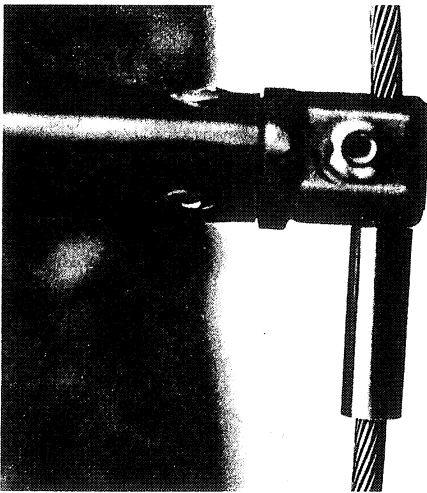

Fig. 4
3. put each of the main shrouds through the end-fittings of the spreaders. (fig. 4).